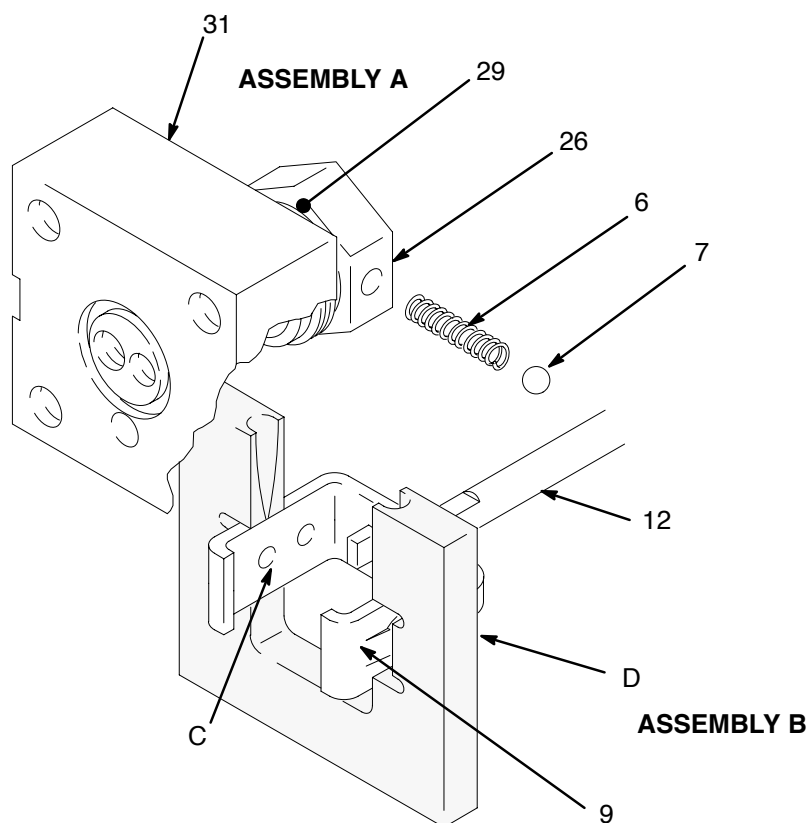

Fig. 10
15. Insert the spring (6) and one ball (7) into the valve stop (26) of Assembly A. Tilt the valve stop and start guiding it into the tool (D), making sure the ball is sliding into the rounded slot in the tool (D). Place the other ball at the other end of the spring and push it in with your thumb while rotating the valve stop (26) until the spring is horizontal and the balls are in place. Continue holding this assembly together. See Fig. 10.
16. Slide the valve stop assembly down into the tool. Make sure the balls (7) snap into the upper set of holes (C) in the yoke (9), and the curved ends of the guide clamp have engaged the valve sleeve (29) groove. See Fig. 10. Slide the tool (D) back over the rod (12) to remove it.